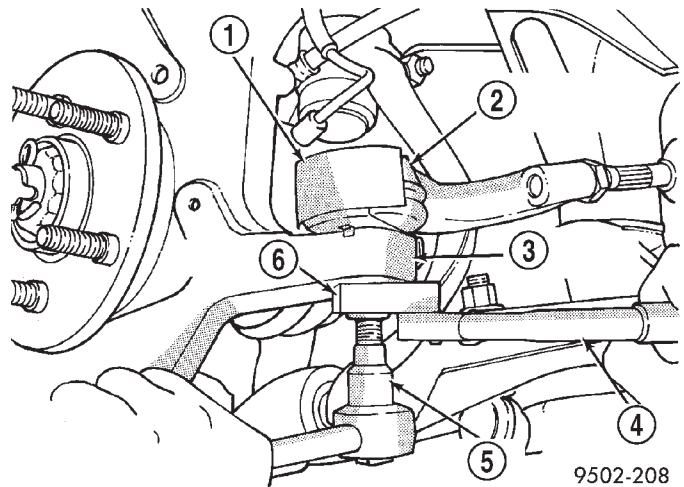

Fig. 24 Torquing Tie Rod End Attaching Nut
(12) Install tie rod end into steering knuckle. Start tie rod end to steering knuckle attaching nut onto stud of tie rod end. While holding stud of tie rod end stationary, tighten tie rod end to steering knuckle attaching nut (Fig. 10). Then using a crowfoot and 11/32 socket, torque tie rod end attaching nut to 61 N·m (45 ft. lbs.) (Fig. 24).